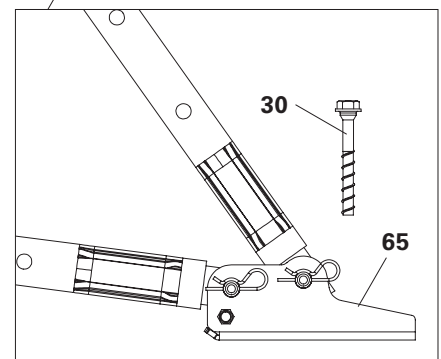

Fig. A11.06a
1. Fasten the Base Plate-3 f. RS 210-1400 (**65**) to a flat and sufficiently load-bearing substrate e.g. using Anchor Bolt SW24 Ø14/20x130 TG (**30**). (Fig. A11.06a)